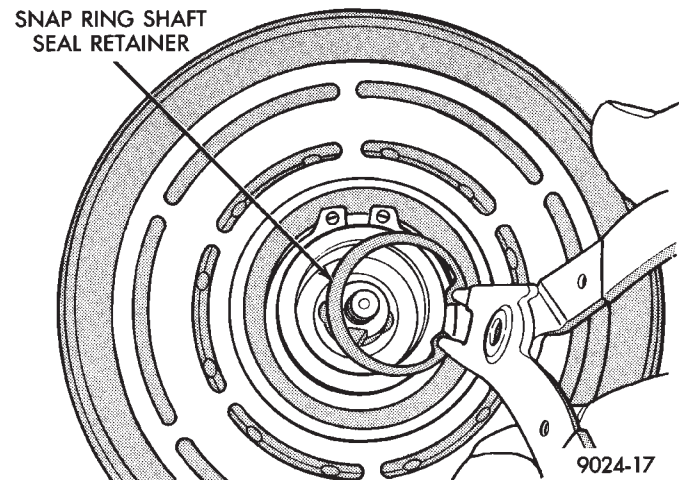

Fig. 2 Shaft Seal Snap Ring
- (5) Using a mineral spirits based solvent, thoroughly clean and dry the seal end of the compressor.
- (6) Remove the snap ring shaft seal retainer (Fig. 2). Do not use the old snap ring to assemble.